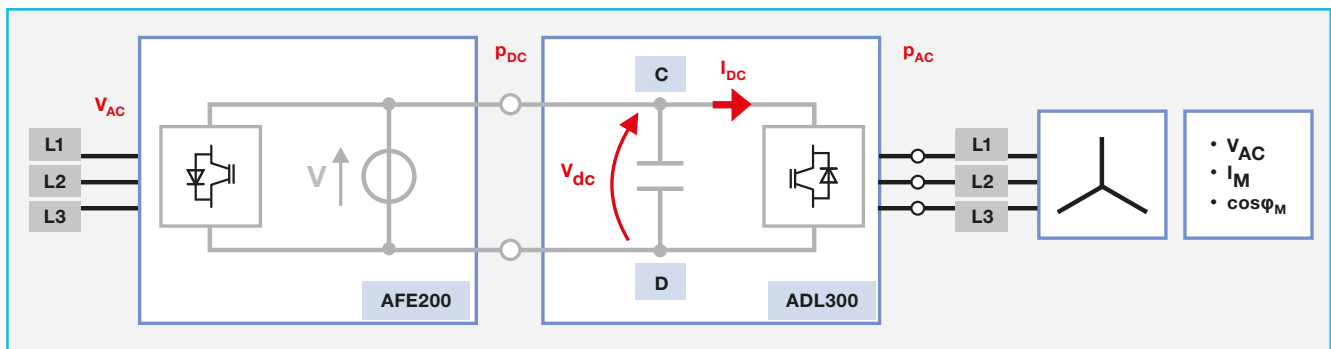

Fig.2: AFE200 regenerative power module
3. The AFE200 regenerative power supply must be able to power the drive and allow it to deliver both rated current and overload current to the motor. Considering the equivalent electrical circuit (see Fig. 2), input power to the drive P_{DC} must equal output power P_{AC} delivered to the motor as a result of drive efficiency. Current I_{DC} to be delivered by the AFE200 is linked to motor parameters